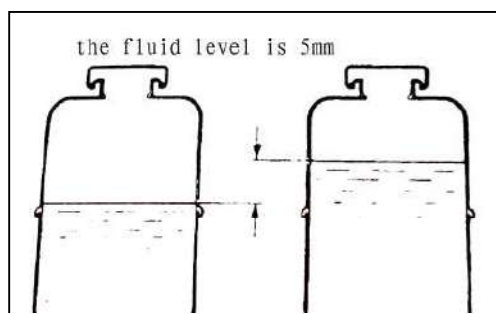

Fig 17-6
7. POWER STEERING FLUID LEVEL CHECK (See fig 17-6)